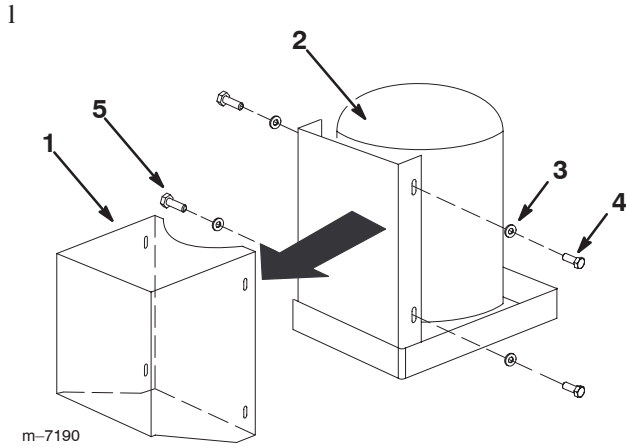

Figure 1
1. Remove the 4 bolts and 4 flat washers that hold the cover to the tank/compressor assembly and remove the cover (Fig. 1).
7. Attach the cover to the tank/compressor assembly using 3 of the 4 hex-head bolts (1/4 x 1 inch) and flat washers that you removed previously. Leave the bottom right bolt out until later in the installation (Fig. 1).